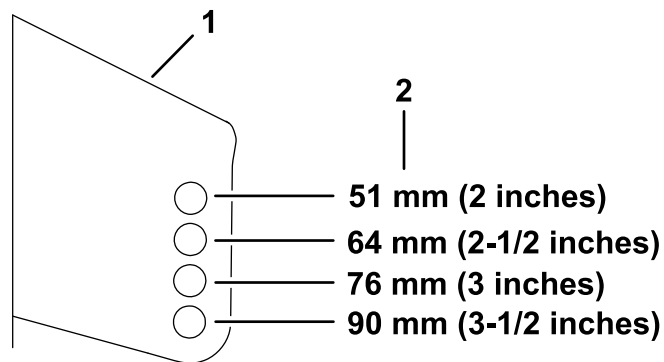

**Figure 30**
4. After adjusting the height of cut, adjust the anti-scalp rollers by removing the mounting hardware (Figure 30).
6. Torque the locknut (3/8 inch) to 41 to 47 N·m (30 to 35 ft·lb) as shown in Figure 30.